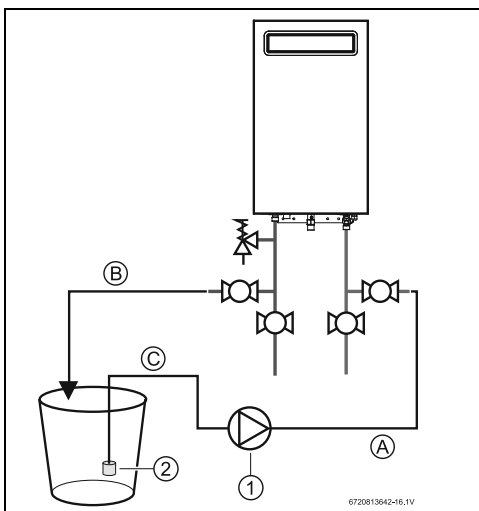

Fig. 43
- Connect a line (A) from the outlet of the circulating pump (installer supplied) to the inlet water fitting on the water heater (see fig. 43).
- Using another line (B), connect the water outlet fitting on the water heater. Route the other end of this line into a descaling reservoir.
- Using a 3rd line (C) from the descaling reservoir, connect to the inlet side of circulating pump. Install a filter on the end of the line in the descaling reservoir.